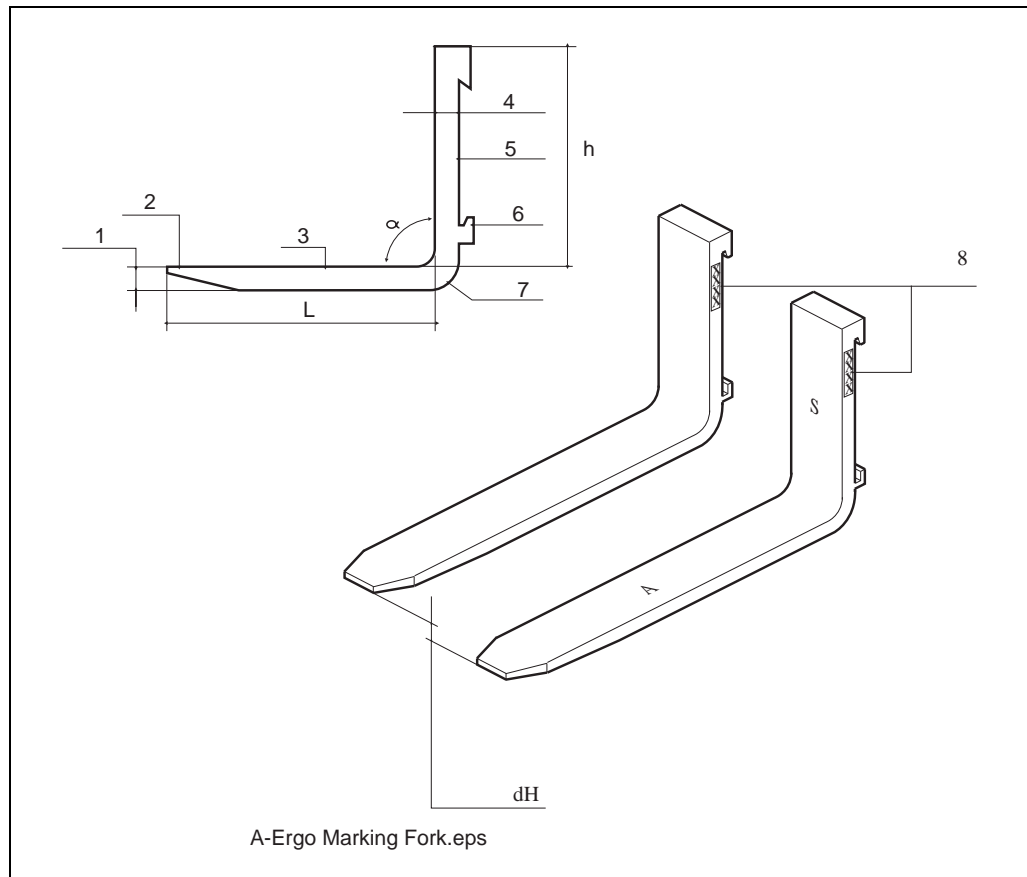

Figure 6.28 Fork designations
1. **Straightness of the blades and shanks:** Deviations from the straightness of the carrier surface and the support surface must not exceed 0.5% of the length of the blade and shank. See figure 6.28.
2. **Crack formation:** Check whether the forks are cracked. Check carefully around the heel and hooks. See figure 6.28.
4. **Fork angle:** The angle, α , between the blade and the shank must be max 93 degrees. See figure 6.28.
5. **Difference in height between the tips of the forks:** The difference in height, dH , between the tips must not exceed 3% of the blade length. See figure 6.28.
7. **Markings:** The fork markings should be explicit and include the lifting capacity in kg for one fork and the distance to the centre of gravity in mm. See pos. 8 in figure 6.28.